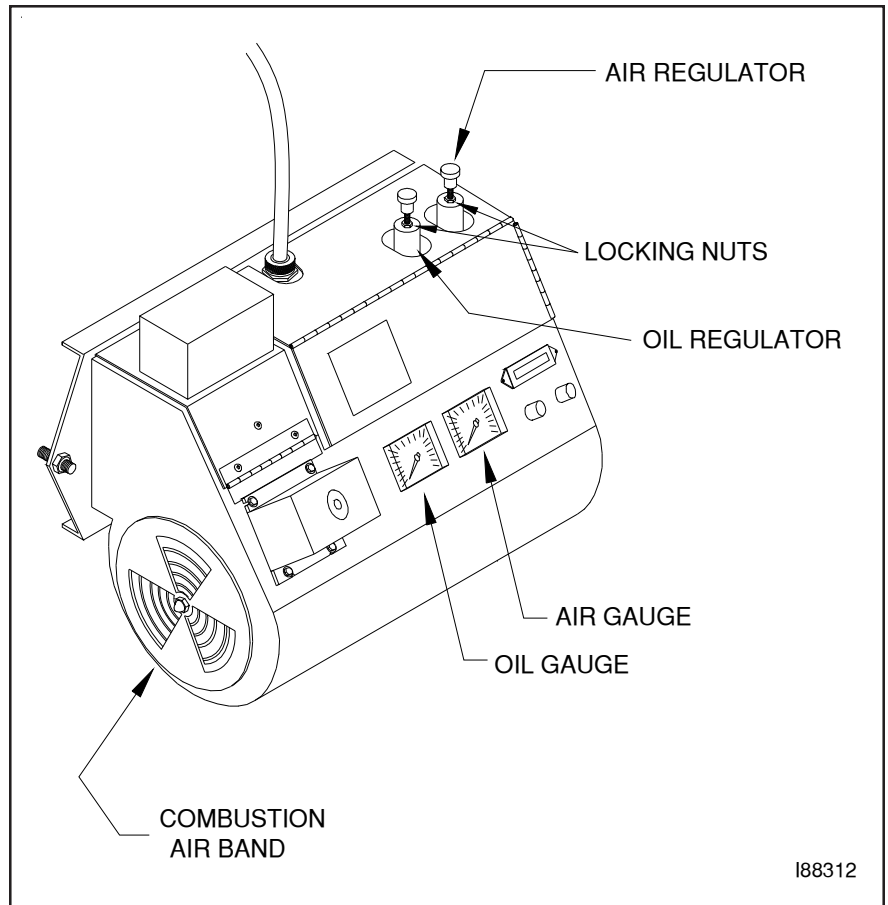

FIGURE 6A - Component Detail of the CB-525-S2 Burner
4. Refer to Figure 6A to locate the oil and air regulators. Loosen the locking nuts on the oil and air regulators.
- Refer to Figure 6A to locate the combustion air band.
- Refer to Figure 6A to identify the combustion air band location on the burner.